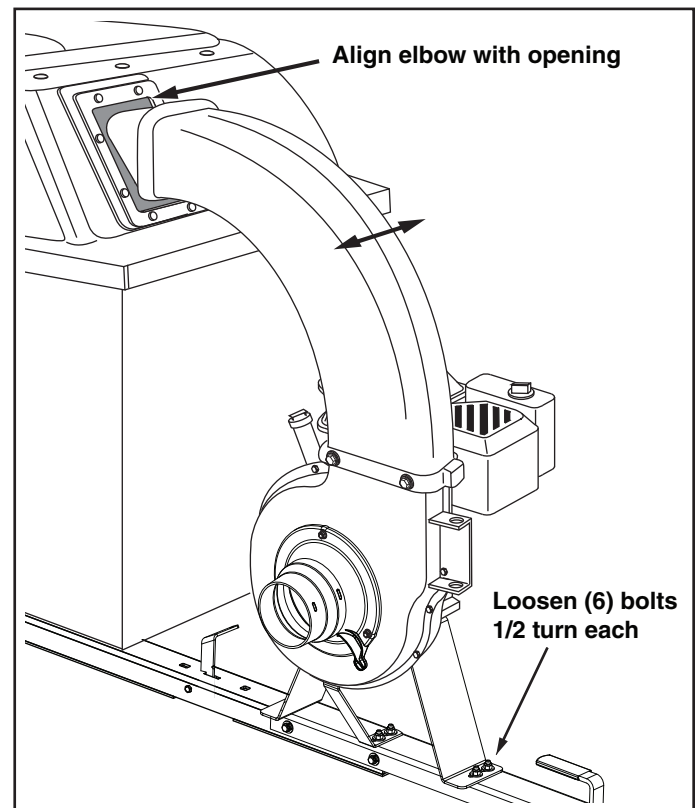

FIGURE 7
- Loosen by approximately 1/2 turn each, the six bolts that you assembled that fasten the engine base to the tongue. See figure 7.